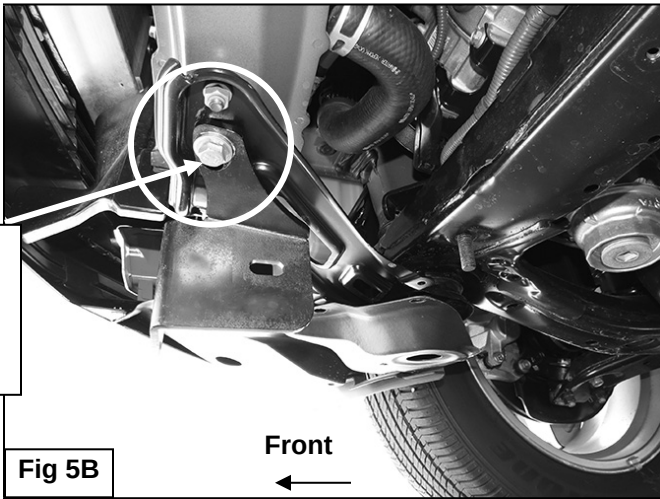

Fig 5B
5. Select the passenger side Mounting Bracket, **(Figure 5A)**. Locate the two factory bolts on the crossmember brace leading towards the bumper, **(Figures 4B & 5B)**. Remove the factory hex bolt towards the outside of the vehicle. Position the driver side Mounting Bracket up to the bottom of the crossmember brace. Bolt the Mounting Bracket in place on the bottom of the brace using the included (1) 10-1.25mm x 35mm Fine Thread Hex Bolt, (1) 10mm Lock Washer and (1) 10mm Flat washer, **(Figure 5B)**. Snug but do not tighten hardware at this time.